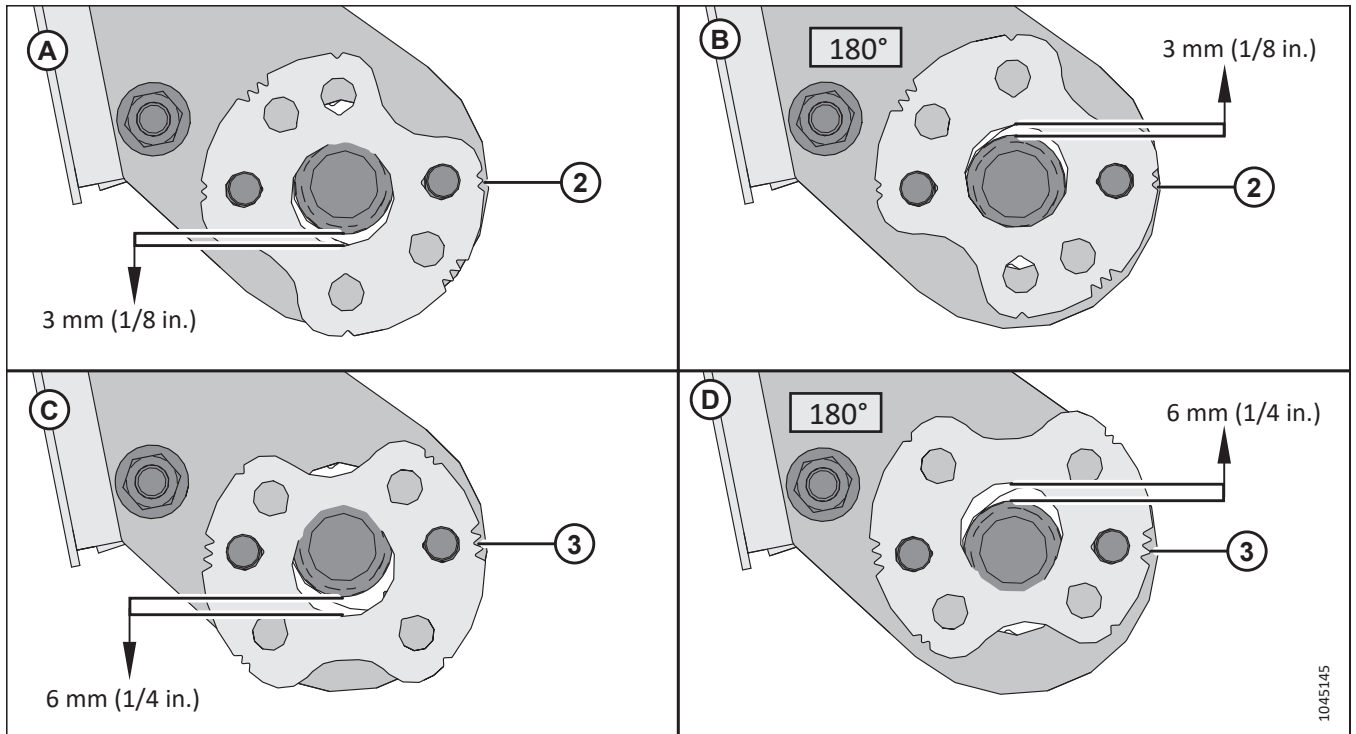

Figure 3.56: AF11 Adjuster Plate Positions
10. **AF11 combines:** If an adjustment is needed, note the position of locking pins compared to the center hole of the adjuster plates, remove nuts (C) and reposition adjuster plates (A) as needed. Refer to Figure 3.56, page 69.